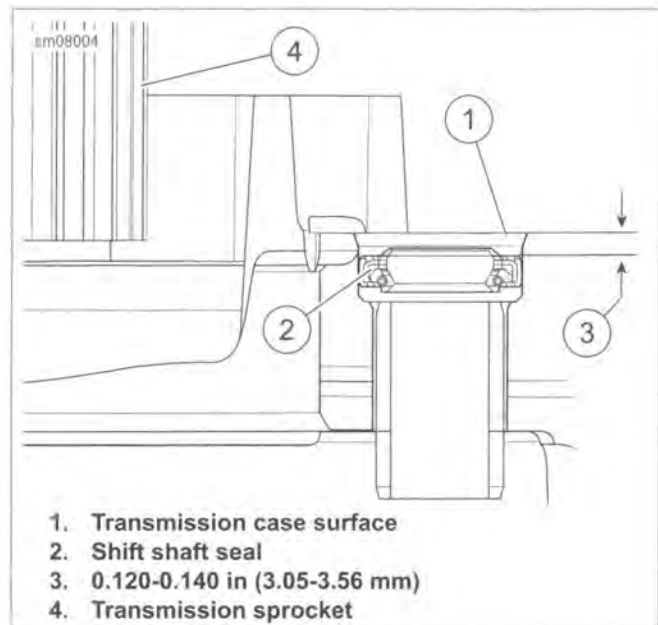

Figure 6-59. Shift Shaft Seal Installation
7. See Figure 6-59. Using SHIFTER SHAFT SEAL INSTALLATION TOOL (Part No. HD-51337), install a new seal with garter spring facing the transmission. Drive the seal in until the tool bottoms out on the transmission case.